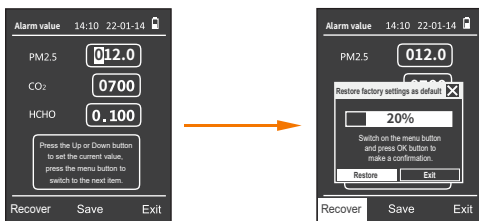

fig.22
**d. Alarm value:** Set alarm limit for PM2.5, CO2 or HCHO concentration (fig.22).